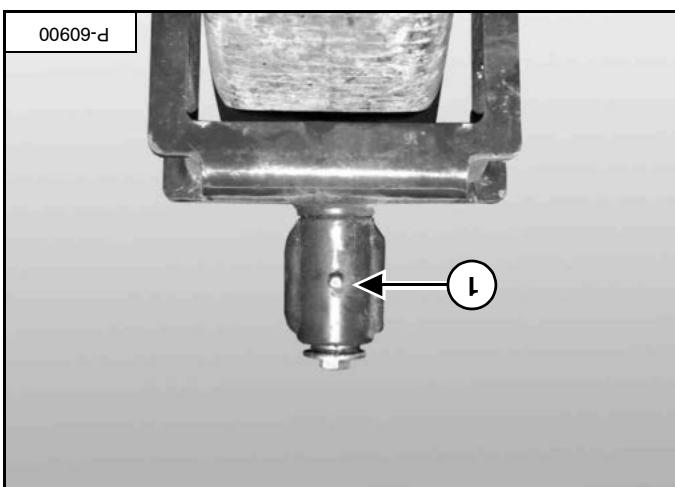

Figure 103
[Figure 103] on the two locations (item 1) [Figure 102] and [Figure 103] on the castor assembly.